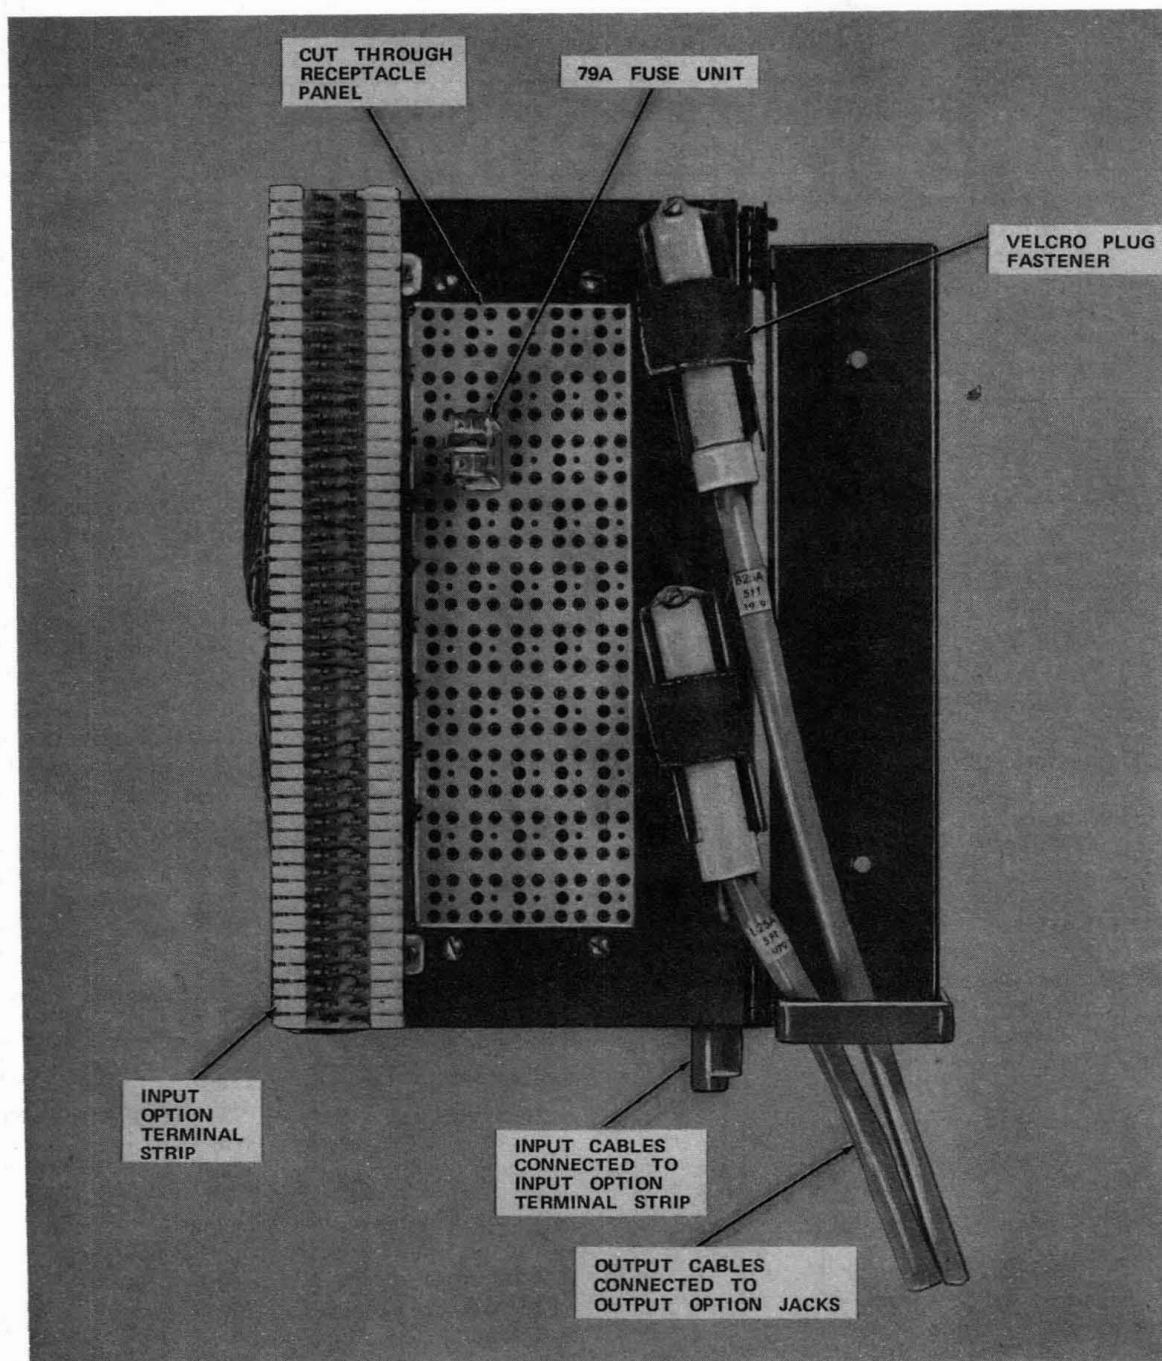

Fig. 2—700A-66-P1-50 Jack
2.05 The 700A-66-P1-50 jack (Fig. 2) is a special purpose interface which provides a 50-pair 66-type connecting block for input option, two 50-pin ribbon connectors for output option, and a receptacle panel which accepts plug-in units for sneak current protection. The panel is separated into two fields, A and B, which coincide with the two output connectors A and B (Fig. 6). The block, connectors, and panel are mounted on a hinged faceplate which allows the input cables to be dressed up the back of the panel and fed through an access hole to the connecting block. The plug-in units (79A fuse or 4C12C dummy protector [Fig. 9]) must be ordered separately as required.